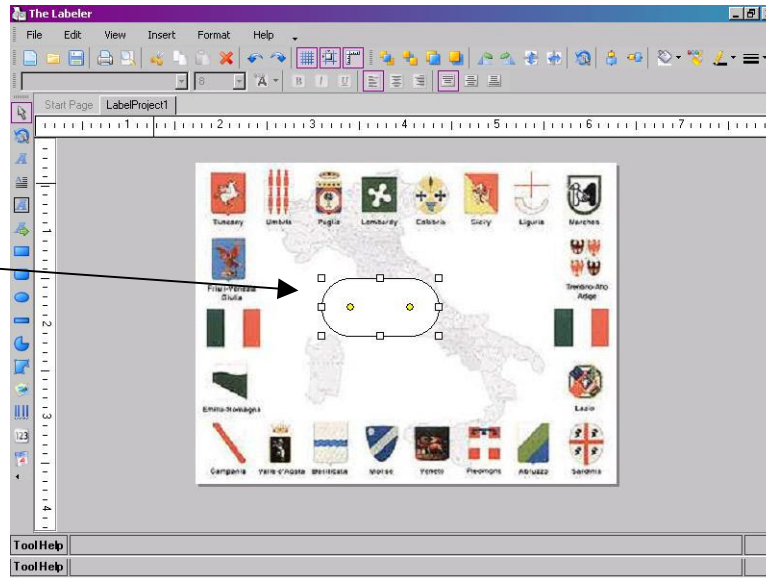

Figure 4.3.7.1: Select the object to rotate left 90
2. Select the Rotate Left 90  tool from the formatting tool bar or from the format menu (see Figure 4.3.7.2).